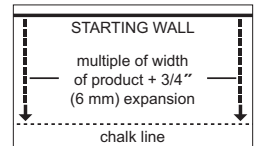

Figure 7
- In at least two places at least 18' (46 cm) from the corner, measure out equal distance from the starting wall (Figure 7) the face width of the starter board plus 1" (2.5 cm) (do not include the width of the tongue in this measurement). Mark these points and snap a chalk line through them. This measurement allows for the required 3/4" (19 mm) expansion and the width of the tongue.